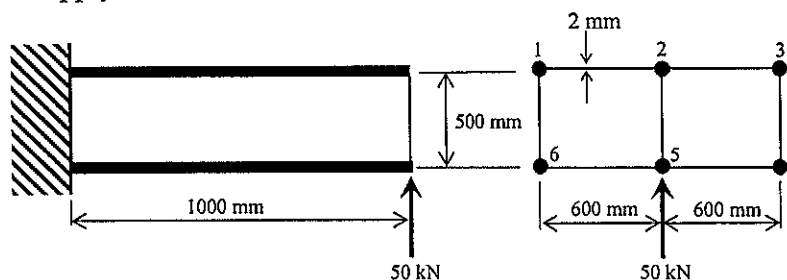

Figure 2
2. Figure 2 shows an idealized cantilever beam structure carrying a 50 kN load at the free end. The beam is made of aluminium alloy ($E=70 \text{ GPa}$, $G=28 \text{ GPa}$) and consists of multi-cell section shown. The boom areas $B_1=B_3=B_4=B_6=100 \text{ mm}^2$ and $B_2=B_5=200 \text{ mm}^2$ and the thickness of all walls is 2 mm. The usual assumptions for idealized structures apply here.